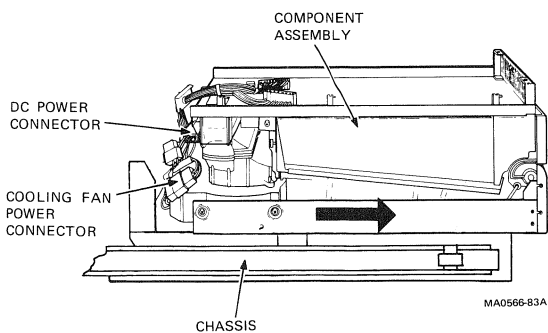

Figure 4-20 Uncabling the Rackmount Component Assembly
7. Unplug dc power harness connector (Figure 4-20).